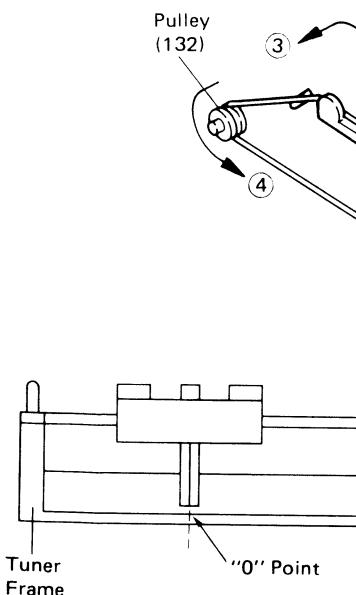
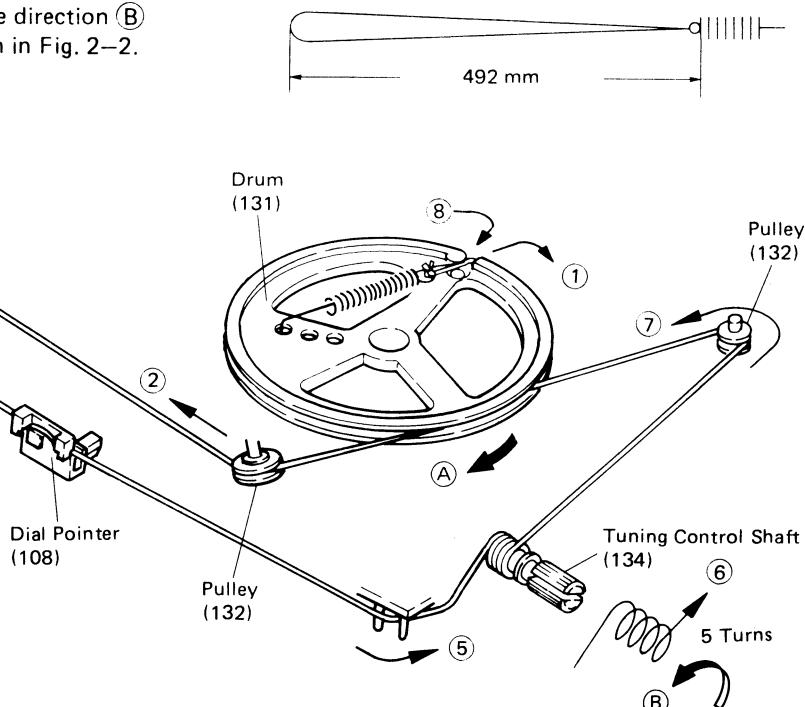

Figure 2-2
Figure 2-1
- Turn the drum fully in the direction **(A)** shown in Fig. 2-1 and stretch its cord over the parts in the numerical order.
- Then turn the tuning control shaft fully in the direction **(B)** shown in Fig. 2-1 and fix its pointer as shown in Fig. 2-2.